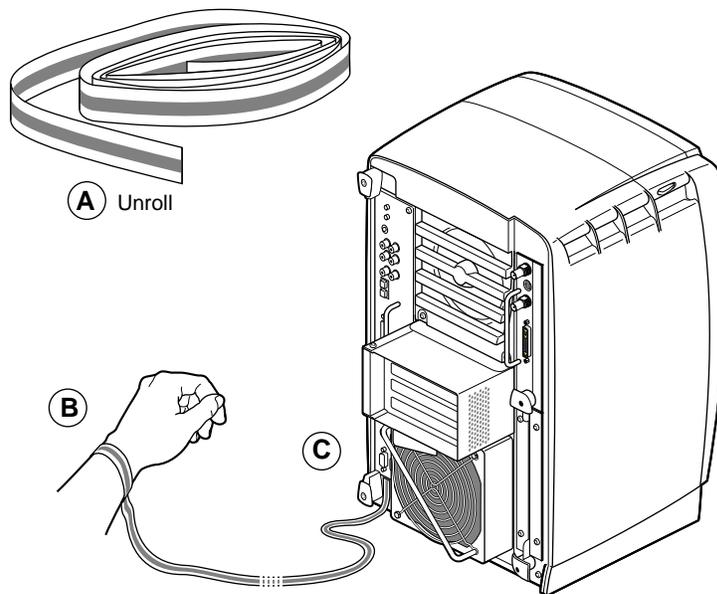

Figure 7-22 Attaching the Wrist Strap
1. Unroll the first two folds of the band (see A in Figure 7-22).
2. Wrap the exposed adhesive side firmly around your wrist (B), unroll the rest of the band, then peel the liner from the copper foil at the opposite end.
3. Attach the copper foil to any exposed electrical ground, such as a metal part of the workstation (C).